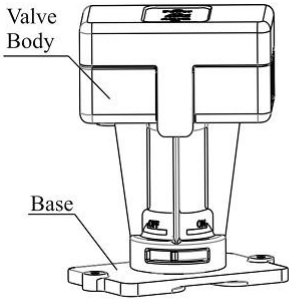
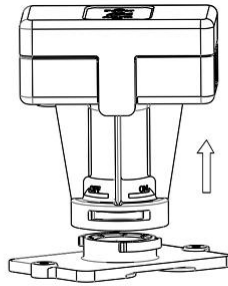

Figure 4
Figure 5
b. Unscrew the valve body from controller base (As Figure 4 showed there is an arrow indication), take out the valve body upwards (As Figure 5 shows).